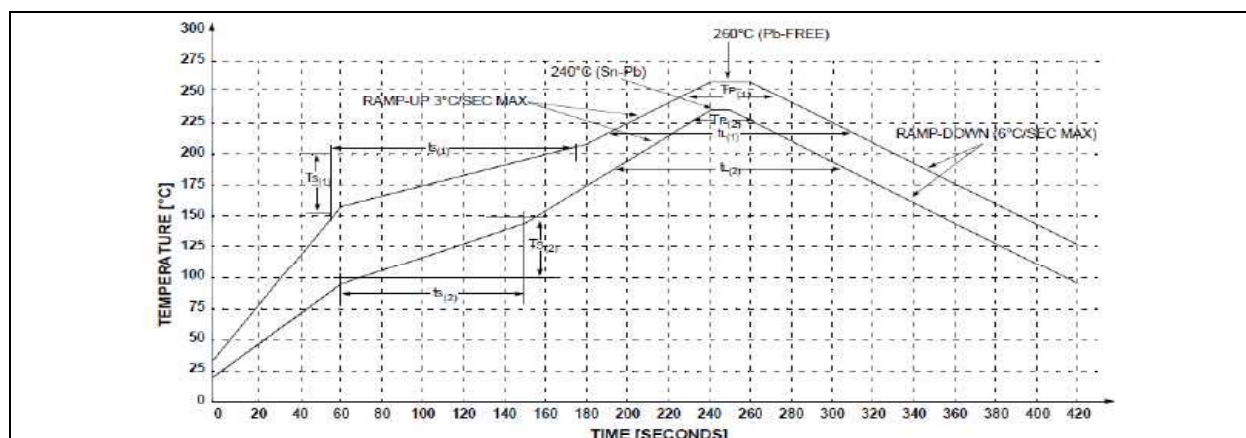

FIGURE 5-1: Solder Profile.
- Replaced Figure 5-1 and Table 5-1 with current data.